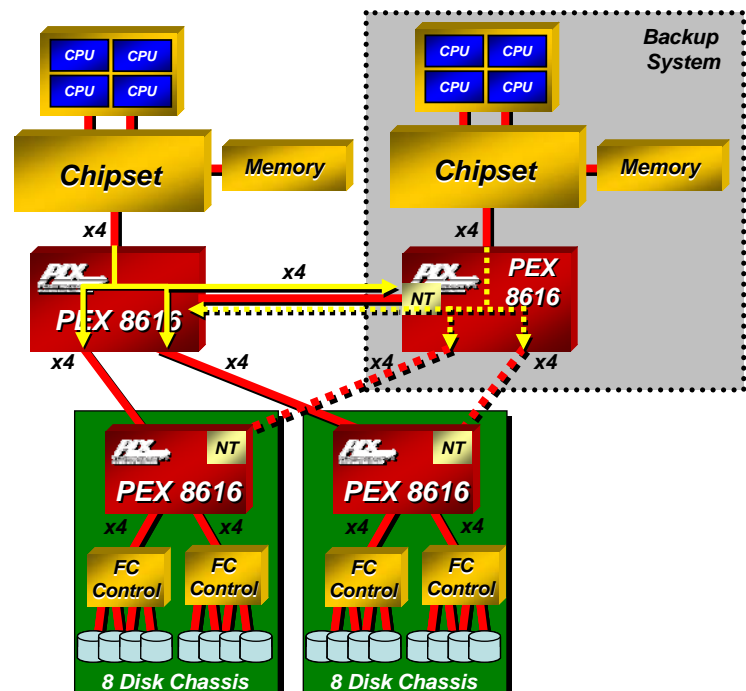

Figure 6. Dual Cast in Storage Systems
The PEX 8616's Dual Cast feature proves to be very useful in storage systems. In the example shown in Figure 6, the Dual Cast feature enables the PEX 8616 to copy data going to its two downstream ports to the backup system and vice versa (see yellow traffic patterns) in one transaction as opposed to having to execute two separate transactions to send data to the redundant chassis. By offloading the task of backing up data onto the secondary system, processor and system performance is enhanced. Non-Transparent (NT) ports are used to isolate the host domains of the backup system from the primary system.